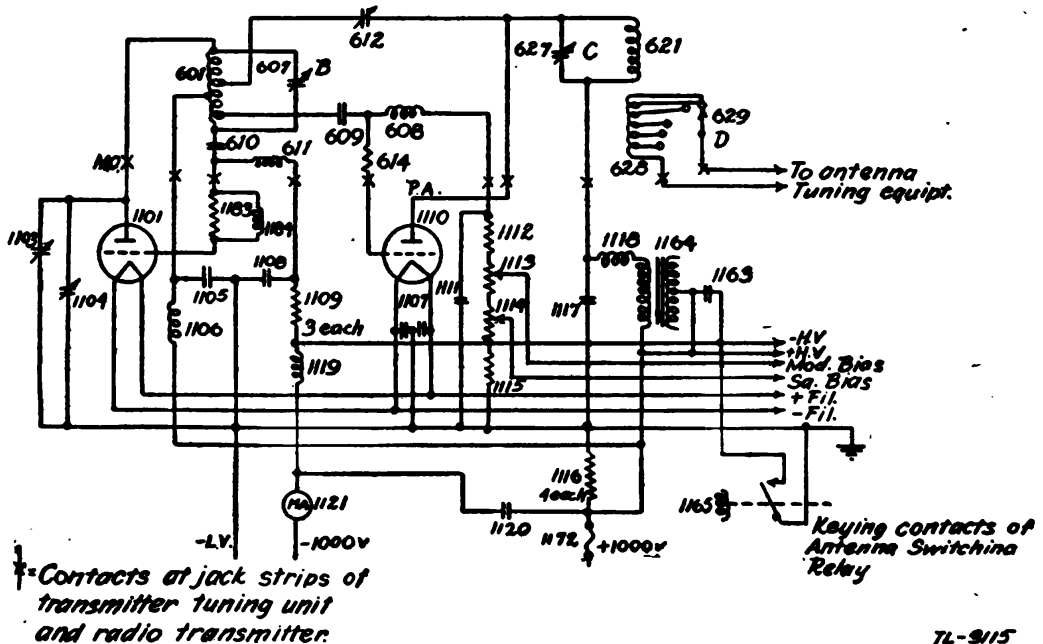
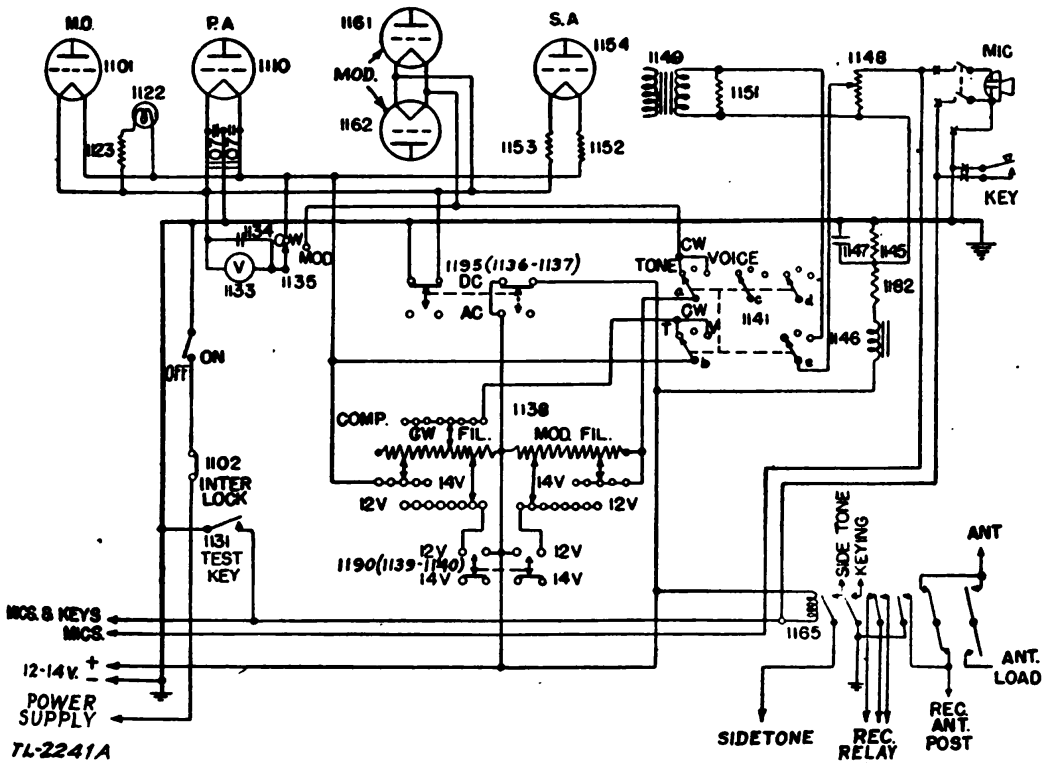

FIGURE 12.—Radio transmitter BC-191-(*), radio frequency and high voltage circuits—functional diagram.
FIGURE 17.—Radio transmitter BC-191-(*), low voltage and control circuits, d-c operation—functional diagram.
27. Radio transmitters BC-191-(*) and transmitter tuning units TU-3-A or -B, TU-5 to TU-10-A or -B, TU-22-A or -B and TU-26-A or -B.—*a. Oscillator circuit.*—The master oscillator circuit is schematically illustrated in figure 12. The oscillatory
circuit by which the frequency of the transmitter is controlled is contained in the transmitter tuning unit being used. When the transmitter tuning unit TU-6-A or -B is employed and the BAND CHANGE SWITCH A is in position 2 (fig. 20), the oscillatory circuit comprises the tapped coil 601 and the variable capacitor 607. Moving the BAND CHANGE SWITCH A to position 1 places the fixed capacitors 603 and 613 in parallel with the variable capacitor 607, and enables this tuning unit to cover the lower ranges of its frequency band. Continuous adjustment of frequency is accomplished by means of the variable capacitor 607, control B. Controls, coil, and capacitors of the other transmitter tuning units (fig. 20) are arranged for similar operation on either one, three, or four bands, depending on the unit. In each tuning unit, both coils and capacitors are thermally compensated to reduce frequency variation due to normal changes in air temperature. Subsequent discussion of the master oscillator circuit is limited to the circuit shown in figure 12, which results when transmitter tuning unit TU-6-A or -B is used with BAND CHANGE SWITCH A on position 2. The radio frequency voltage across the lower half of the coil 601 provides the master oscillator grid excitation voltage. The coil is also tapped an equal number of turns on either side of the center tap. The grid excitation voltage for the power amplifier is furnished through capacitor 609. The master oscillator grid excitation voltage is obtained through capacitor 610, which also blocks the d-c plate voltage from the grid circuit. Resistor 1183 and choke 1184, in parallel, are connected in series with the grid of the master oscillator tube to prevent the generation of parasitic oscillations. The plate voltage for the master oscillator is fed to the tuning unit through radio frequency choke 1106, which, with capacitor 1105, prevents radio frequency current from flowing into the power supply. Resistors 1109 (three in series) function as the master oscillator grid leak which provides the required operating bias for the master oscillator tube from the rectified grid current. Part 1108 is a radio frequency bypass capacitor. Grid choke 611, in conjunction with resistors 1109, serves as the necessary d-c path from the grid to the filament, maintaining at the same time a high impedance to the radio frequency grid excitation voltage. Capacitor 1104 is the calibration reset by means of which the master oscillator tuning circuit can be adjusted to correspond to the calibration chart whenever the oscillator tube is changed. This capacitor is adjusted through a small port in the front panel to the right of TEST KEY. Capacitor 1103 is a sealed capacitor which provides the necessary thermal compensation for any frequency drift normally
b. Power amplifier circuit.—(1) The power amplifier circuit is schematically illustrated in conjunction with the master oscillator circuit in figure 12. The power amplifier plate tank circuit, by means of which the plate load impedance is adjusted, is contained in the transmitter tuning unit. When the transmitter tuning unit TU-6-A or -B is employed and BAND CHANGE SWITCH A is in position 2, the plate tank circuit comprises the coil 621 and variable capacitor 627. Moving BAND CHANGE SWITCH A to position 1 places
(2) Subsequent discussion of the power amplifier circuit is limited to the circuit shown in figure 12, which results when the transmitter tuning unit TU-6-A or -B is used with BAND CHANGE SWITCH A on position 2. The power amplifier grid receives excitation through capacitor 609 from the master oscillator tank coil. Capacitor 609 also keeps the master oscillator d-c plate voltage from the
f. Keying.—Keying of the transmitter (fig. 12) is controlled by means of resistor 1115, one end of which is connected to negative high voltage and to all grid circuit returns, and the other end to negative filament or ground potential. The keying contacts of relay 1165 are connected across this resistor. When the keying contacts are open, the voltage drop across 1115 is such that the grids of the tubes are negatively biased beyond plate current cut off, stopping oscillation. When these keying contacts are closed, resistor 1115 is shorted and normal grid biases on all tubes are reestablished. Operation of the keying contacts is accomplished by supplying power to the antenna switching relay 1165. (See fig. 17.) Power is supplied to this relay when the key, test key, or the microphone button switch is operated. Operation of the antenna switching relay performs the following additional functions:
- (1) Disconnects the receiving equipment from the antenna and grounds the receiver input circuit.
- (2) Connects the transmitter to the antenna circuit.
- (3) Keys the side tone circuit.
(2) Under the condition of d-c filament supply (fig. 17), resistor 1138 is used to adjust the filament potential to approximately 10 volts, as indicated by the red line on voltmeter 1133. The midtap of this resistor is connected to the power source. One side of the resistor is used for the adjustment of the filaments of the tubes used for continuous wave operation and the other side for the modulator tubes.
(3) Provision is made to short out a section of the continuous wave filament resistor by means of one section of switch 1141 (figs. 13 and 17) to compensate for the increased line drop which occurs when the modulator filaments are lighted. This arrangement makes it unnecessary to readjust the voltages when changing from continuous wave to tone or voice operation. A portion of the resistor may be short-circuited by the 12V. 14.2V. switch 1190 (1139, 1140) (fig. 17), so that the correct filament voltage may be applied both when the power supply storage battery is being charged and when it is not being charged. Switch 1135 connects filament voltmeter 1133 to either the continuous wave or modulator tube filaments. If the filaments are operated from an a-c source, resistor 1138 serves only as a compensating resistor to eliminate the need for readjusting the filament rheostat when changing from continuous wave to tone or voice transmission.